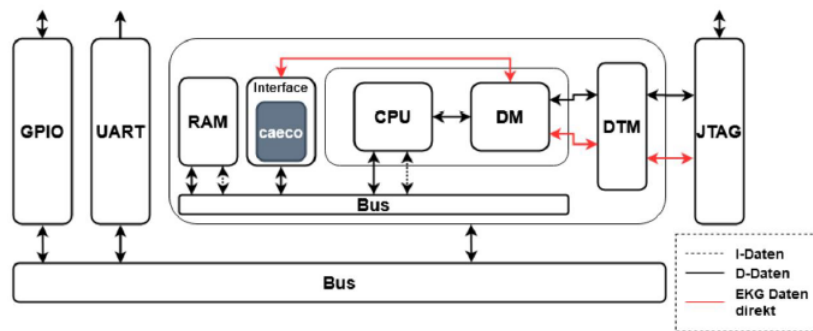

Figure 43: Data flow in the RV32IM system architecture
The first option is accessing directly to CAECO to write the ECG data, start the calculation and read the result. This is achieved writing and reading to specific addresses defined in `raifes_dmi_constants.vh`. When these addresses are received by the Debug Module Interface (DMI), which is part of the raifes Debug Module (DM), the `caeco_interface` module handles the data specified for these addresses for a direct access to CAECO and without requiring to access to the RISC-V before using the CAECO. A graphical representation of the data flow for this option is presented in Figure 43 showing with red arrows the way in which the CAECO is accessed.
The second option to access to CAECO is through the RISC-V. By interacting with the RISC-V in debug mode using the DMI, it is possible to write and read to registers in the RAM. The RAM serves as memory for the instructions and data of the RISC-V. Once the data has been written to the memory, the CAECO gets the data from the RAM through the BUS as shown in Figure 43. The addresses used to access to CAECO via the RISC-V are different than those used for a direct access with the DM as shown in Tables 2 and 3.